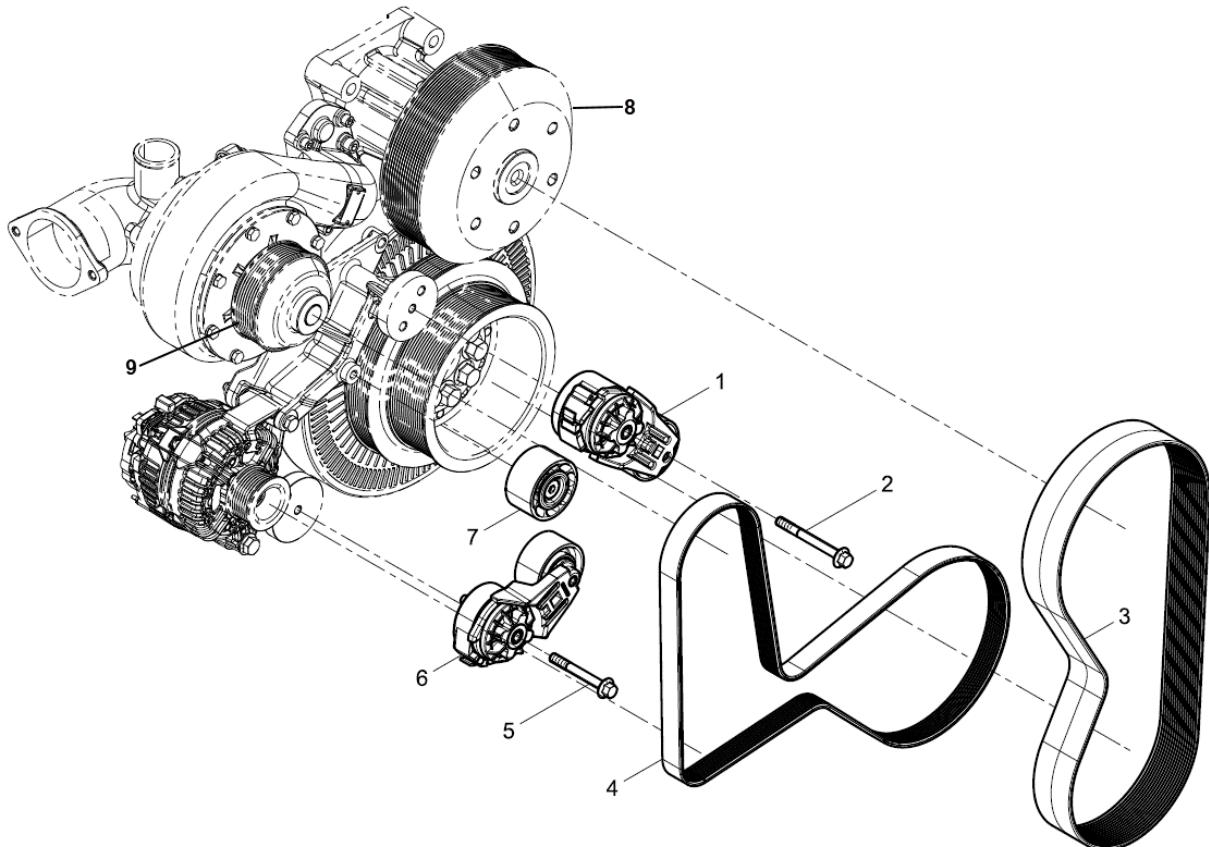

Figure 13. Front Engine Accessory Drive Assembly
1. Remove bolt (Figure 13, Item 5).
2. Remove the right-hand automatic belt tensioner (Figure 13, Item 6).
1. Place the right-hand automatic belt tensioner (Figure 13, Item 6) onto the tensioner bracket.
2. Insert and torque the bolt (Figure 13, Item 5).
1. Insert a $\frac{1}{2}$ " drive ratchet or breaker bar into the square hole on the automatic belt tensioner. Pull the ratchet to take the tension off the automatic belt tensioner and remove the serpentine belt (Figure 13, Item 3).
2. Remove the bolt (Figure 13, Item 2).
3. Remove the serpentine automatic belt tensioner (Figure 13, Item 1).
1. Place the serpentine automatic belt tensioner (Figure 13, Item 1) onto the bracket.
2. Insert and torque the bolt (Figure 13, Item 2).